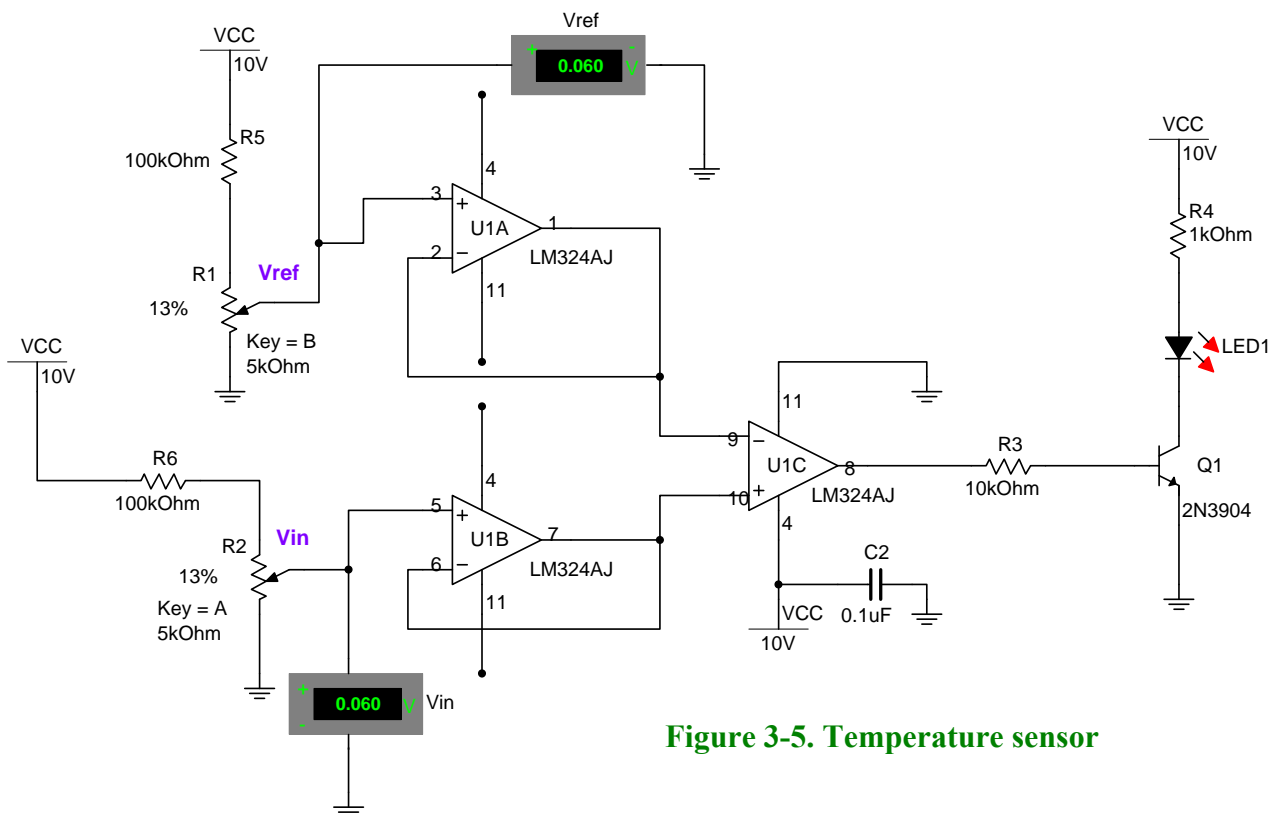

Figure 3-5. Temperature sensor
With this information we can design the respective circuit that is in Figure 3-5.
To simplify the design we are going to use the quad op-amp LM324AJ. Notice that we are using three sections out of the four that this IC has. Each section has its own power supply terminals (pins 4 and 11); however, we need to connect the power supplies to one section only as shown in U1C in Figure 3-5. At this point you should be quite familiar with some portions of the
temperature sensor depicted in Figure 3-5. It is appropriate then that you are able to answer the following questions.
1. Build the circuit indicated in Figure 3-5 using Multisim. Choose 2% increment for the potentiometers
Now that you have tested the circuit to satisfy the problem statement using Multisim, it's time to hardwire the circuit depicted in Figure 3-5 using real components. However, as you did in Labs 1 and 2, before continuing you are going to generate the list of components and the equipment that you need to complete this task.
2. What kind of circuit do we need to detect the sensor output and trip an alarm? (**Hint:** look at the temperature sensing circuit design in figure 3-5. How should this design be modified for this application?)
4. How do we deal with the electrically noisy manufacturing environment and how does it affect our circuit design? (**Hint:** look at the temperature sensing circuit design in figure 3-5. How should this design be modified for this application?)